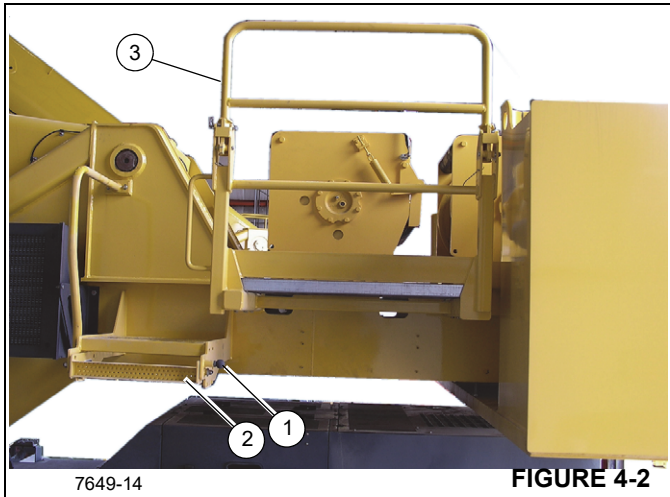

FIGURE 4-2
Configure the hoist access area from the Travel Position (Figure 4-1) to the Working Position (Figure 4-2).
Place the hoist access platform hand rail (1) (Figure 4-2) and step (2) (Fixed counterweight units only) into the working position:
1. Pull out on the step locking pin (1) (Figure 4-2), slide the step (2) out to the working position and release the locking pin into the locking hole.
2. Remove two locking pins from hand rail (3) and rotate it up into the working position, reinstall pins.